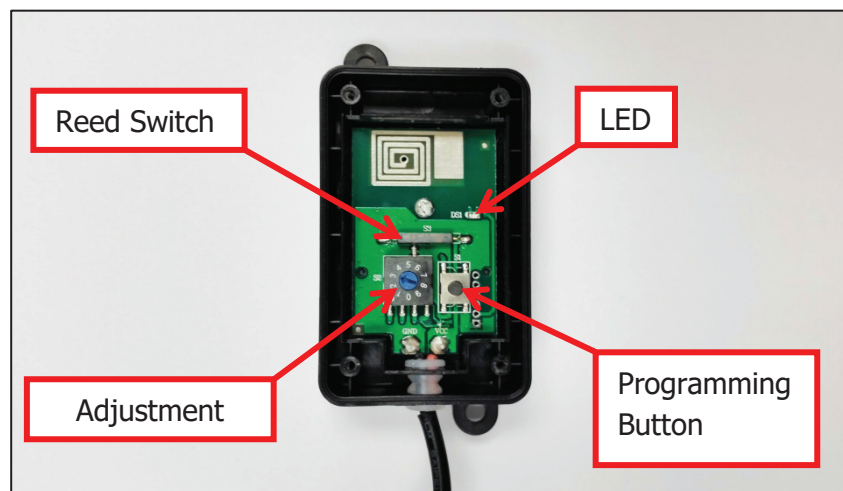

Fig.4
- a. Set the Motion sensor Adjustment Dial to level 5. (See page 9 Fig.4)
- e. Press the Stop button on the Motor controller (see fig.4). The green LED will illuminate continuously.
- f. Press the programming button on the GC779G Motion sensor (See Fig.4). Both the Purple LED on the Motion sensor and the green LED on the Motor controller will flash once and extinguish. This completes the programming sequence.
- a. Set the Adjustment Dial to level 5. (See page 9 Fig.4).
- e. Press the programming button on the GC779G Motion sensor (See Fig.4). Both the Purple LED on the Motion sensor and the Red LED on the Motor controller will flash once and extinguish. This completes the programming sequence.
- a. Set the Motion sensor Adjustment Dial to 0. (See page 9 Fig.4).
- d. Press the programming button on the GC779G Motion sensor ONCE (See Fig.4). The GC1146C will bleep FIVE times to indicate that the program has been accepted.
- a. Set the Motion sensor Adjustment Dial to 0.( See page 9 Fig 4)
- d. Press the programming button on the GC779G Motion sensor ONCE (See Fig.4). The 98GC74 will bleep several times to indicate that the program has been accepted.